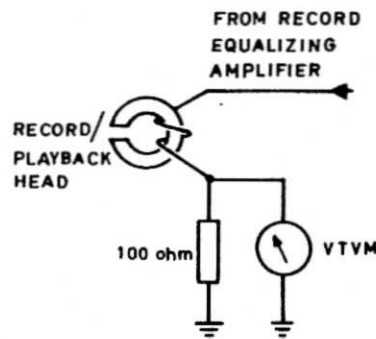

Fig. 6.6
Connect a signal generator to HIGH INPUT L (R) and a VTVM to a 100 ohm resistor in series with upper, channel L (lower channel R) record/playback head to ground (black wire). Ref. fig. 6.6. Short-circuit secondary winding of oscillator transformer T301. Set the signal generator to 400 Hz and adjust the level 30 dB below optimum recording level. Start the tape recorder in record position and check the frequency response according to fig. 5.5. Deviation for all frequencies must not exceed ± 2.5 dB. Difference in level between the two channels should be less than 4 dB at all frequencies. Check the frequency response at all tape speeds.